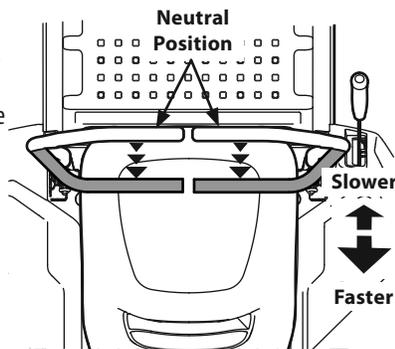

Figure 23
1. Slowly and evenly move both lapbar drive control levers rearward. The tractor will start to move in the reverse direction. See Figure 23.